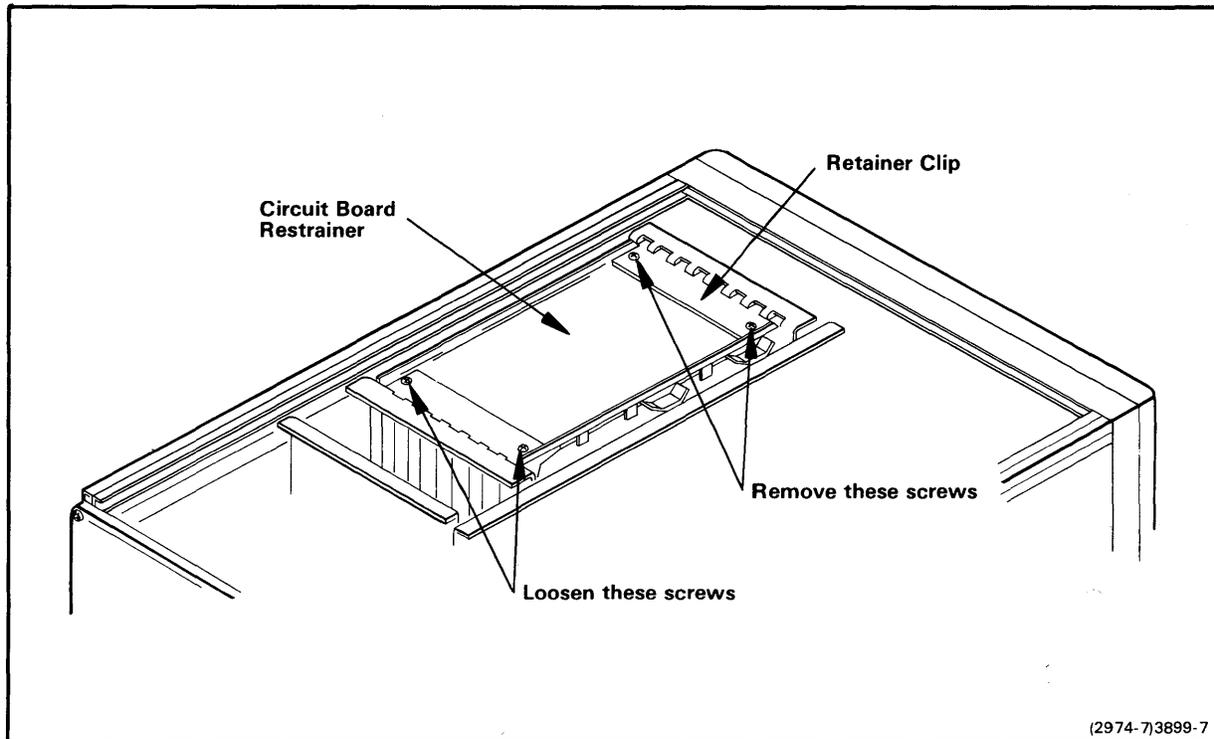

Fig. 2-5. Removing the 8560 circuit board restrainer.
3. Remove the two screws on the other end of the restrainer and carefully remove the retainer clip (see Fig. 2-5).